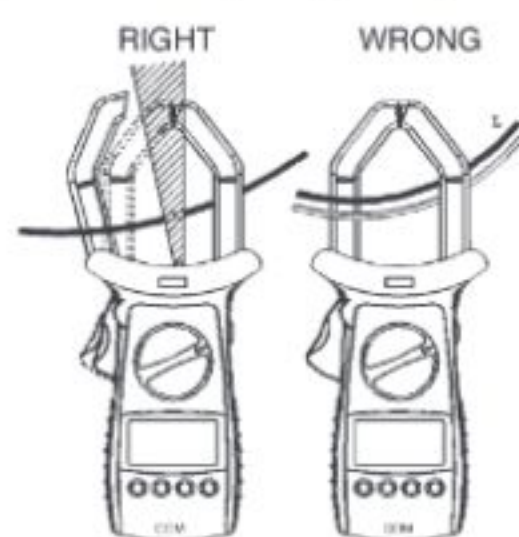

FIG 12
J. Measuring AC Current (See Figure 12)